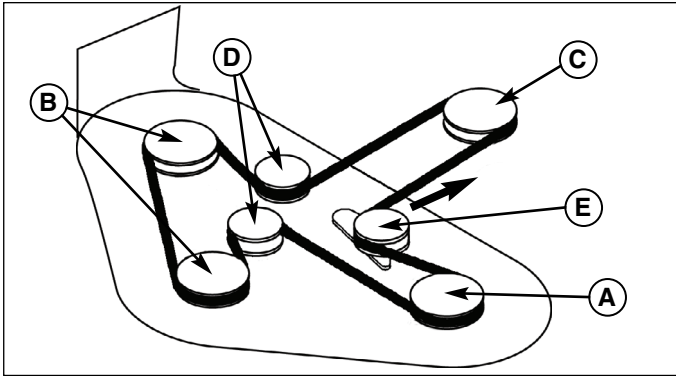

Figure 34. Mower Belt Routing - 44" Decks
4. Pull back firmly on the belt tensioning idler (E, Figure 34) in the direction indicated, and remove the belt from the left arbor pulley (A).
6. Reversing steps 4 & 5, install the new belt, following the routing in Figure 34. Be sure to replace the belt guards.